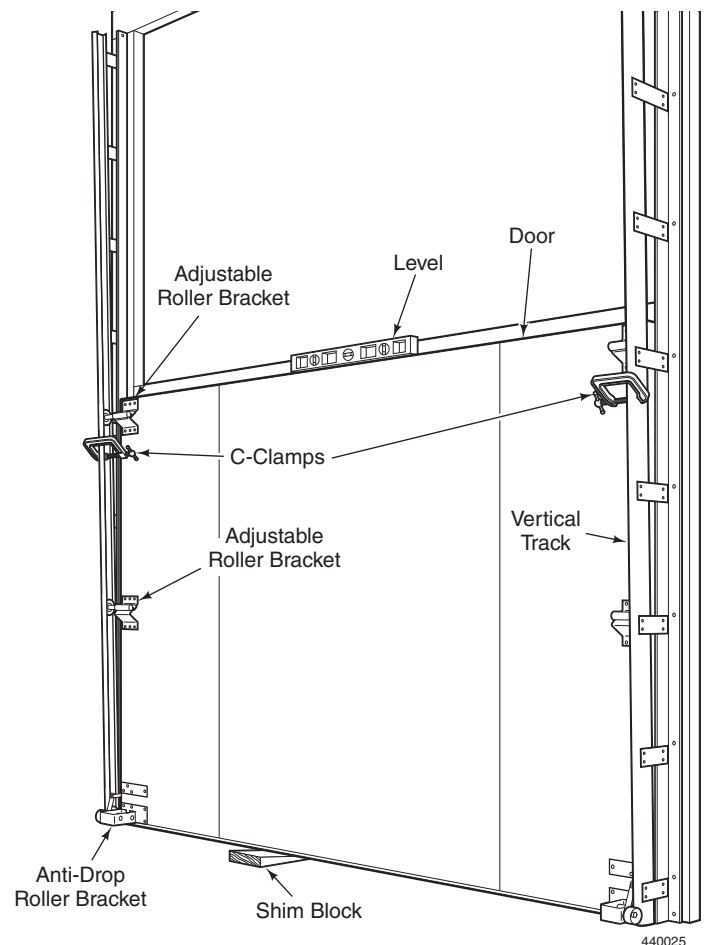

Figure 22
7. Check the level of the Door. Shim as necessary to bring the Door into level. Leave the shim in place until all Rollers and Brackets are installed. See Figure 22.